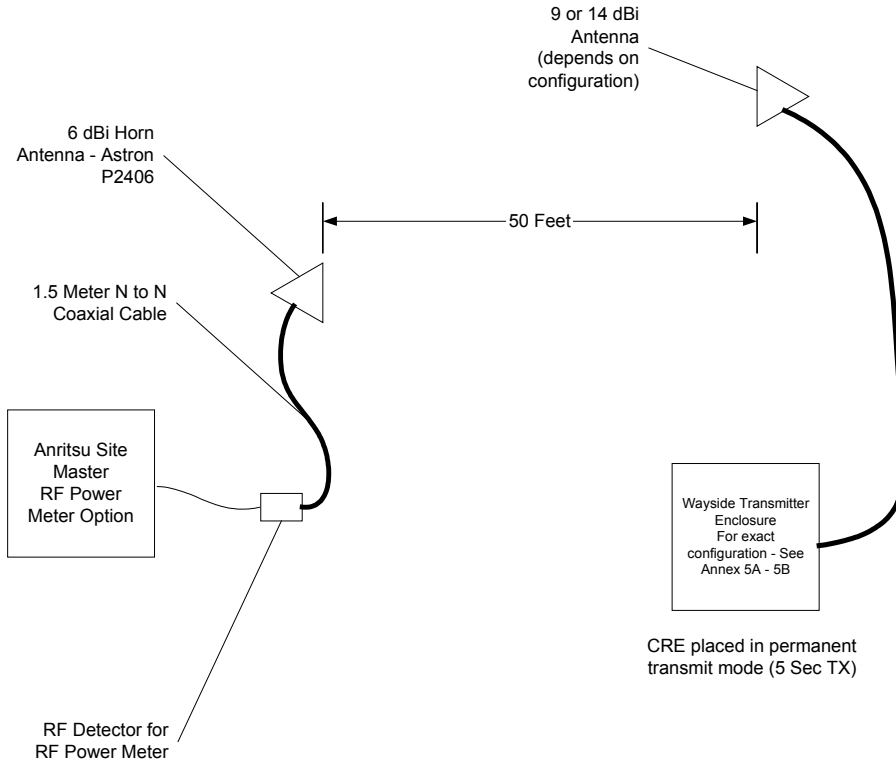

Figure 6.2 - RF Measurement of CRE w/Antenna at 50 Ft.
- 2. RF measurement of system at 50 ft. This measurement will be performed using a RF Power Meter, 6 dB Horn antenna, and a 1.5 meter coaxial cable at a distance of 50 feet from the antenna. These measurements will be made with the CRE in continuous transmit mode. The measurements will be recorded in the RF Power Measurement at 50-Ft. column in the Test Record Form in Annex TR. This test is detailed in Figure 6.2 below.